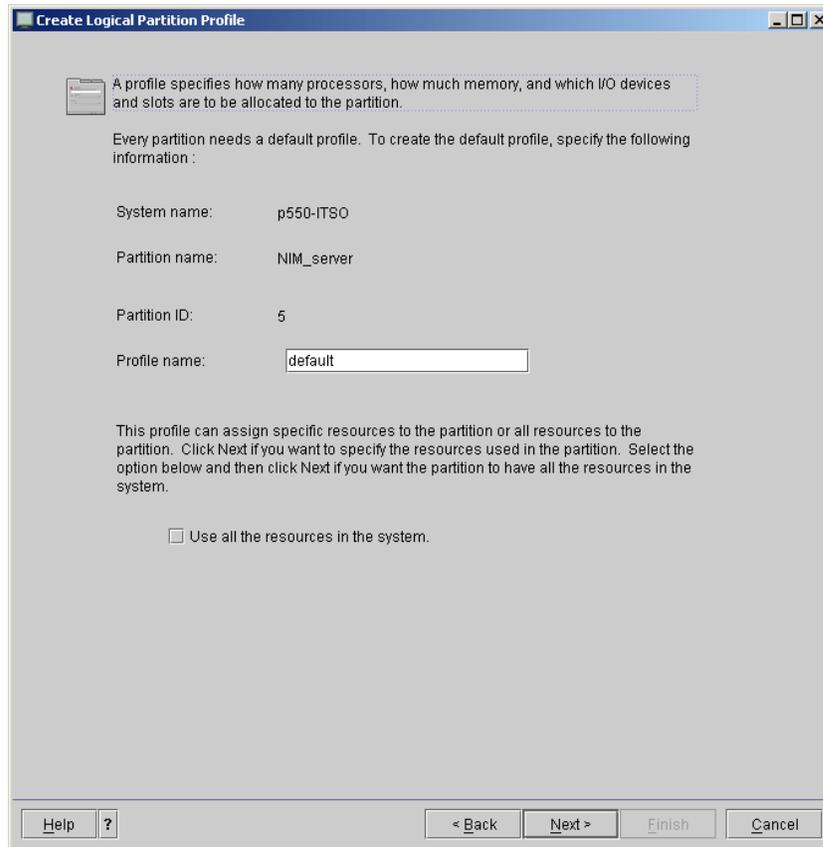

Figure 3-3 Defining the partition ID and partition name
3. Enter the partition name and ID (or keep the ID selected by the system. IDs must be unique), then select the **Virtual I/O Server** button, as shown in Figure 3-3.